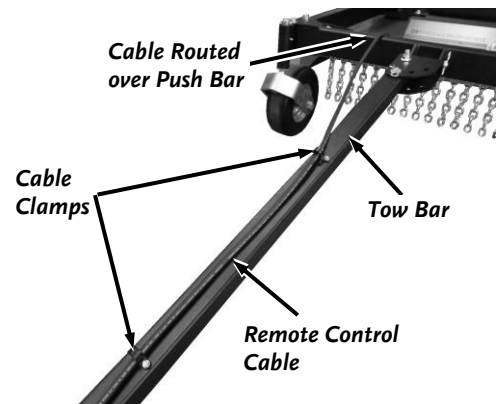

Figure 24
2. Pro and Pro XL model: Pull the Remote Control Cable from the Cable Clamps (**Figure 24**).
7. Pro and Pro XL model: Install the Cable Clamps to the top of the Tow Bar using a 5/16" Nut Driver (**Figure 24**).